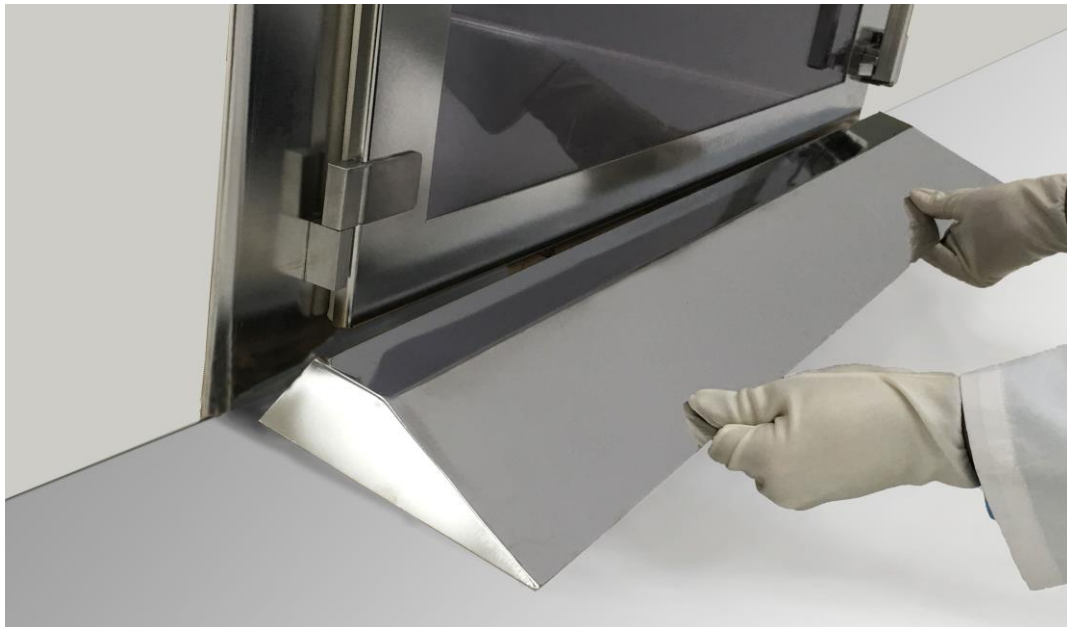

Figure 8: Hook the ramps on the studs at the bottom of the pass-through
8. For large pass-throughs requiring a support bracket, install the support bracket now (See **Figure 8**). Support brackets should be positioned to press up against the bottom of the chamber and fastened to the wall only. The pass-through chamber should rest its weight on the bracket, without any fasteners piercing the body of the pass-through.